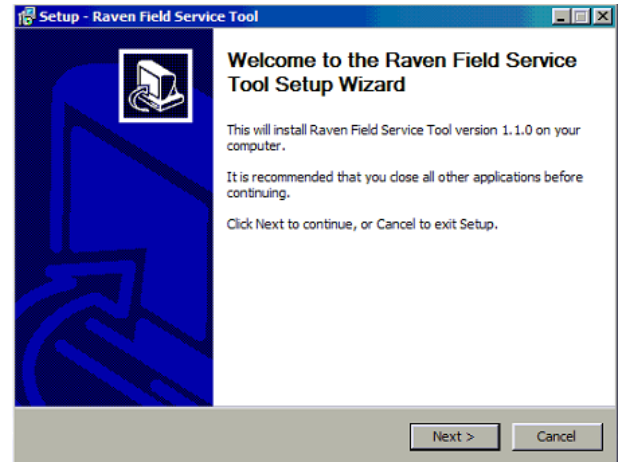

Figure 18 Raven Field Service Tool installation.
3. Open your USB drive and double click the *install-rfst-1.2.0.exe* executable. An update wizard occurs (Figure 18).